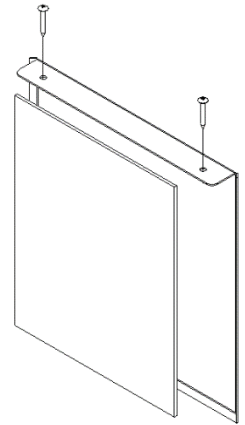
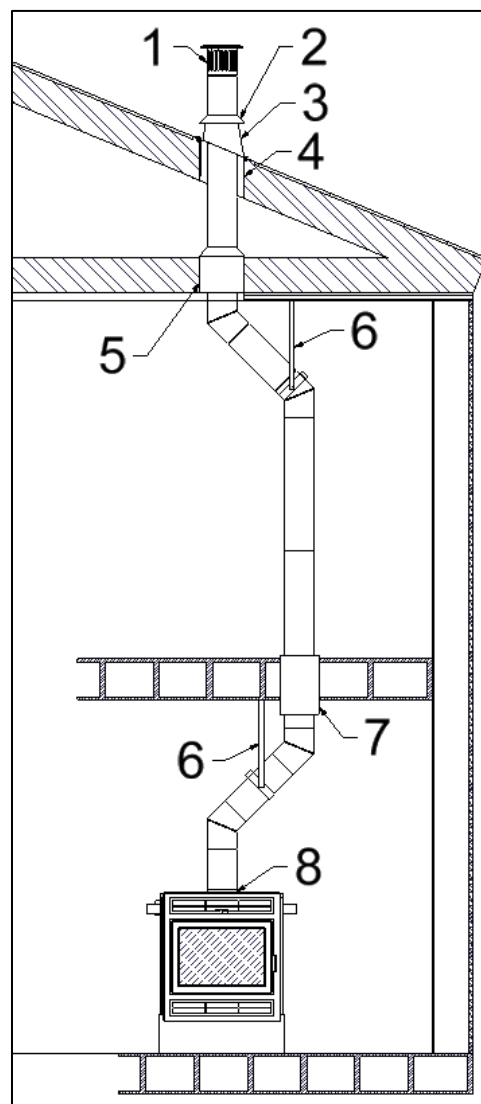

Figure 2-6: SUPREME Roof Radiation Plate
Figure 3-4: Standard Offset Installation
3. Install the chimney manufacturer's roof radiation shield in the opening of the roof, as well as the 4 SUPREME roof radiation plates (Figure 2-6 and Item 4 in Figure 3-4) – adjust the shield so that it is extruding approximately 1" above the roof surface. Ensure to install the appropriate firestop for ceilings and walls.
An offset installation (Figure 3-4) consists of the use of elbows to deviate from unavoidable obstacles or to extend the chimney outside. The following list is a few general rules to take note when installing offsets: